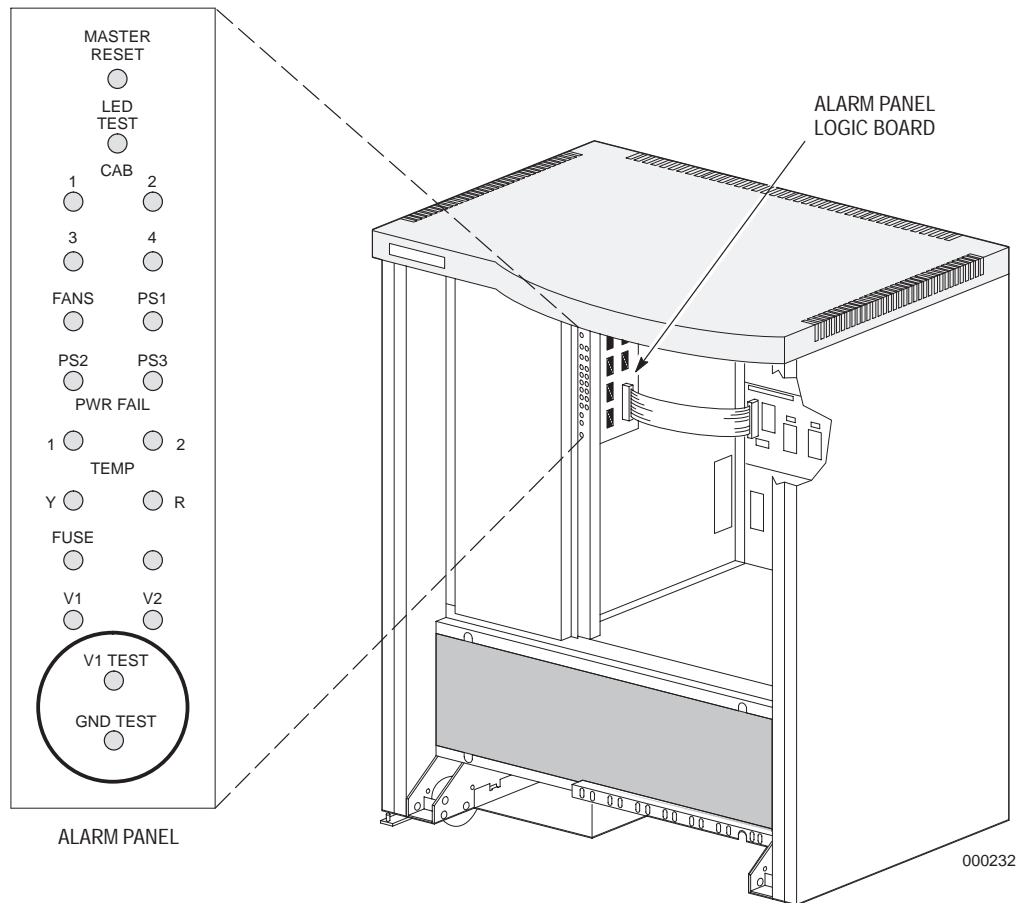

Figure 10-14. Alarm Panel, Showing the Location of V1 and GND Test Points.
2. Locate the V1 TEST and GND TEST test points on the alarm panel, as shown in Figure 10-14.